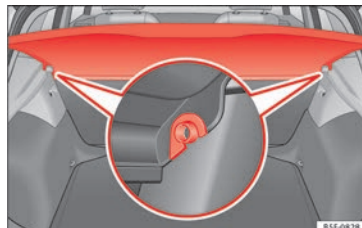

Fig. 164 In the luggage compartment: removing and installing the rear shelf.
- Remove the rear shelf from the side supports » **Fig. 164** by pulling it upwards and then take it out.
- Insert the cover horizontally so that the “recess” fits onto the axis of the supports » **Fig. 164** and press down until it engages.